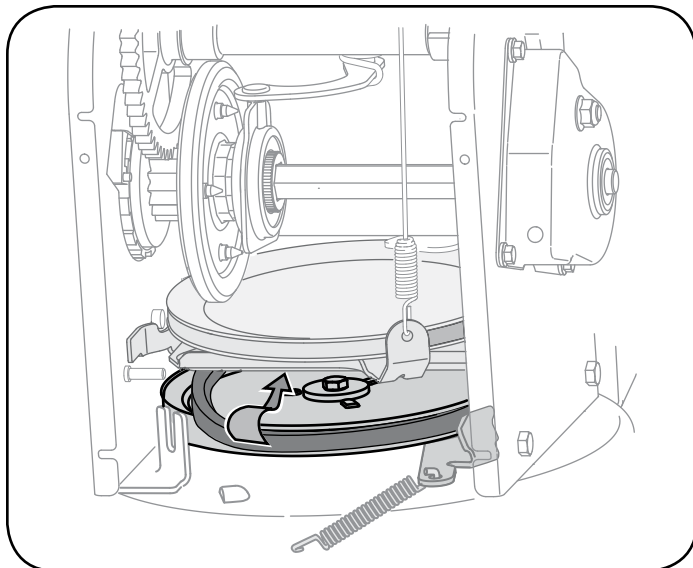

Figure 17
3. Remove old belt and replace with new belt wrapping it around the auger pulley. See Figure 17.